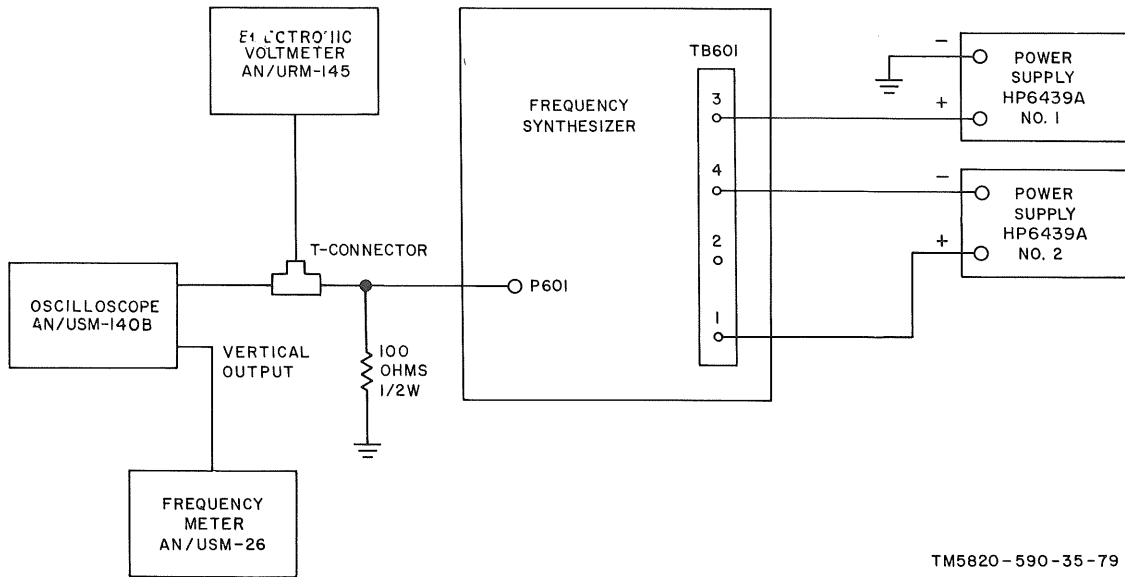

Figure 3-2. Frequency synthesizer, troubleshooting test setup.
- a.* Connect a 100-ohm, 1/2-watt load between ground and P601 (fig. 3-2 and 3-3).
145 (or equivalent) and Oscilloscope AN/USM-140B to a T-connector as illustrated in figure 3-2.